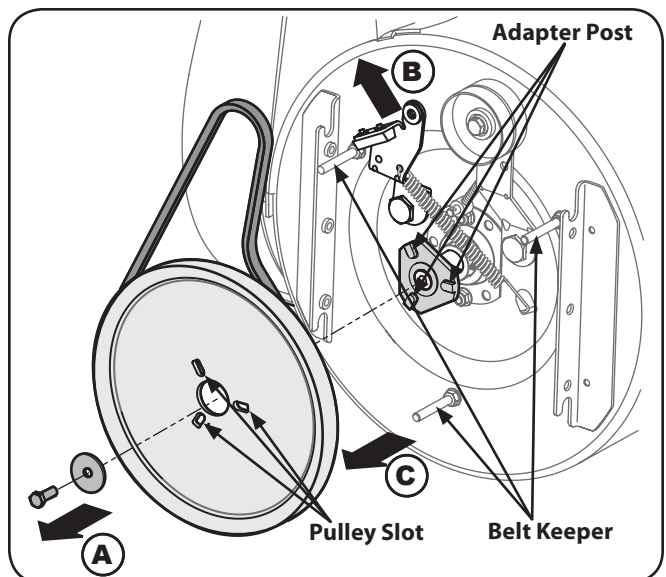

Figure 7-8
- b. Lift the brake bracket assembly out of the pulley groove and slide the pulley assembly off the posts of the auger pulley adapter to remove the old belt. Refer to Figure 7-8.
7. Turn the pulley as necessary to align its three slots approximately with the posts of the pulley adapter, then move the brake bracket assembly away from the input shaft. While aligning the pulley slots and adapter posts, push the auger pulley fully onto the adapter. Refer to Figure 7-8.
NOTE: If the pulley adapter was removed with the pulley, align the splines of the pulley adapter and auger input shaft, and push the pulley and adapter onto the input shaft. Refer to Fig. 7-8.